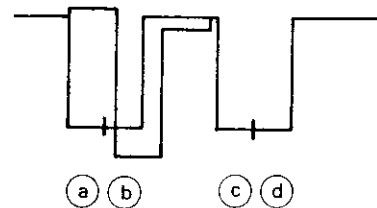

Fig. 76
- ⑧ Connect the oscilloscope probe to TP27R.
- ⑨ Adjust peaks (a), (b), (c), and (d) to the same height as shown in Figure 76 by turning VR114R and VR113. Be sure not to move the "CHROMA" or "HUE" preset control inside the hinged door.